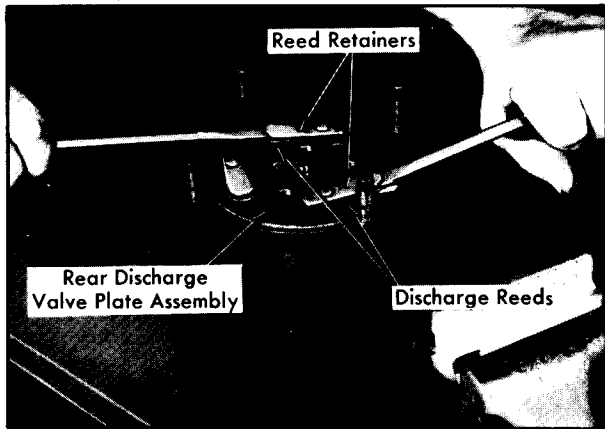

Figure 65—Removing Rear Discharge Valve Plate
9. Carefully remove rear discharge valve plate assembly. Use two small screwdrivers under reed retainers to pry up on assembly (figure 65). **Do not position screwdrivers between reeds and reed seats.**